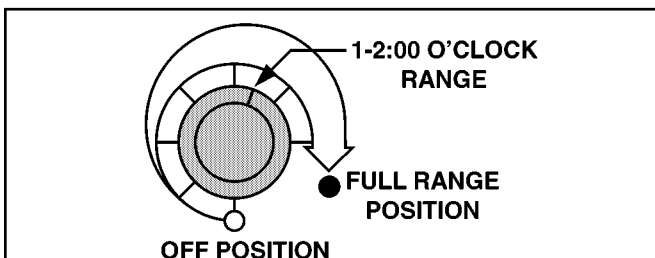

Figure 1-7 Hydraulics Knob
- **Hydraulics Knob.** (Refer to Figure 1-7) For machines with Directional Valve Assemblies, this knob allows operators to adjust the duration of the hydraulic’s pulses when the cutting blade is near “On Grade”. The knob normally will be set around the 1-2:00 o’clock range.